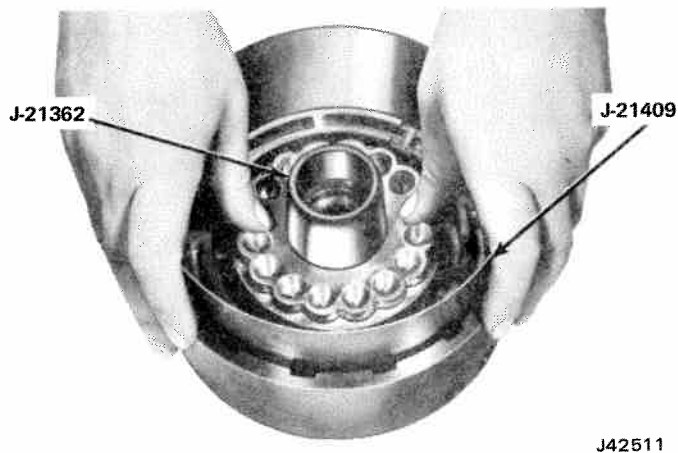

Fig. 7-81 Installing Piston in Direct Clutch Housing
(4) Place Inner Seal Protector J-21362 and Outer Seal Protector J-21409 over hub and clutch housing.
(5) Install direct clutch piston in housing with a rotating motion (fig. 7-81).